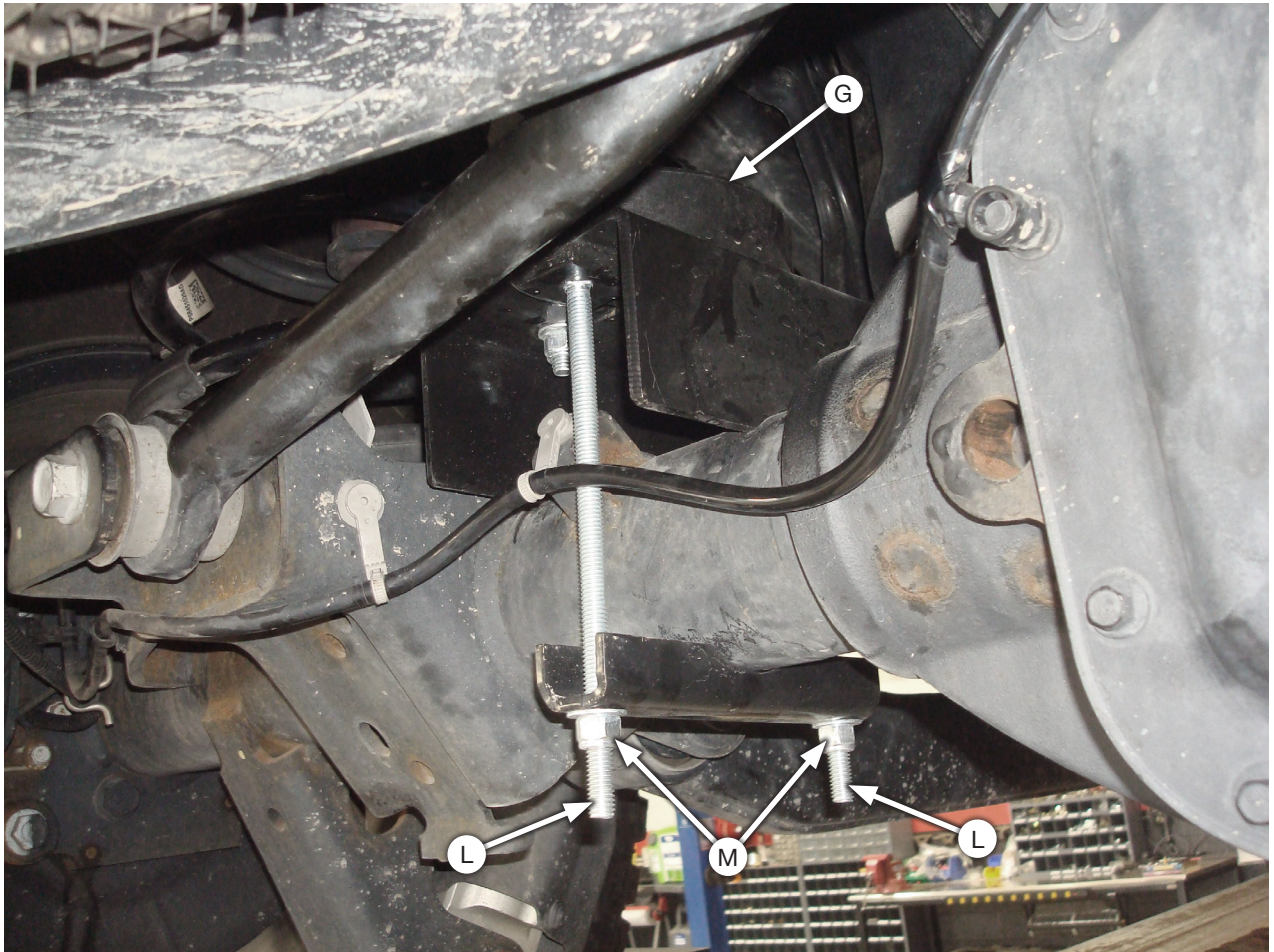

Fig. 13
3. Lower the vehicle down until the air spring is just above the air spring cradle (G), then adjust the lower bracket assembly until the lower portion of the air spring is centered in the cradle. At this time, tighten the nylon lock nuts (M) onto the carriage bolts (L) and torque to 16 lb.-ft. (21.7Nm). (Fig. 13)